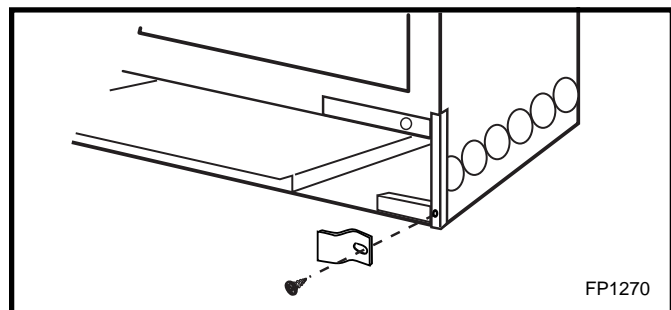

Fig. 54 Bracket for HEBTKP.
3. Install bracket on each side of the cabinet as shown in Figure 54.